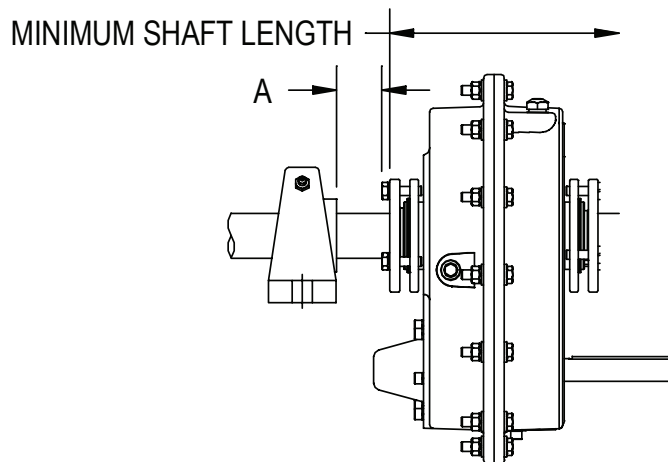

Figure 5 - Minimum Recommended Dimensions
1. One bushing assembly is required to mount the reducer on the driven shaft. An assembly consists of two tapered bushings, bushing screws and washers, and necessary shaft keys or key. The driven shaft must extend through the full length of the reducer. The minimum shaft length, as measured from the end of the shaft to the outer edge of the bushing flange (see Figure 5), is given in Table 1. This dimension does not include dimension A. Dimension A should be added to the minimum shaft length to allow for the removal of the bushings at disassembly.